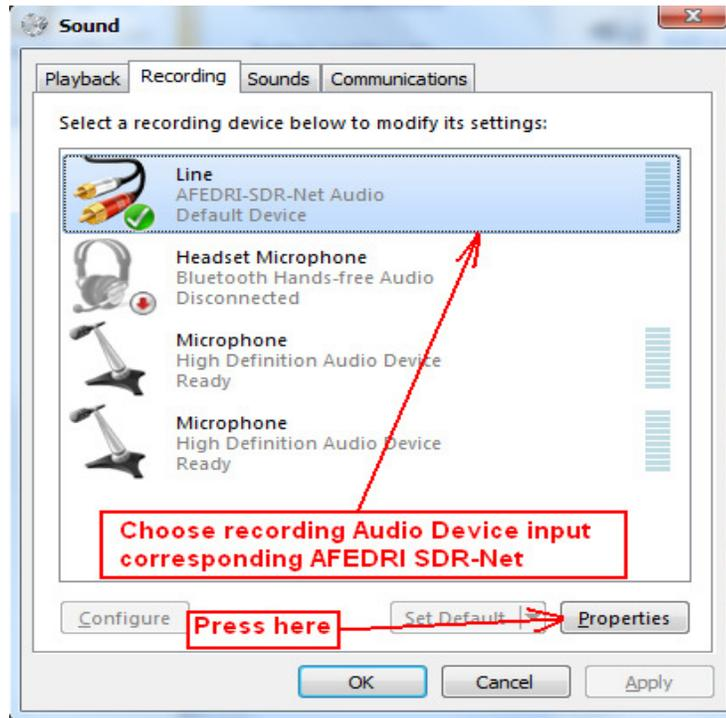

Figure 15 "Sound" window
- In "Sound" window go to "Recording" tab, choose the audio input device that corresponds to AFEDRI SDR-Net receiver and press "Properties" button (see **Figure 15**.)